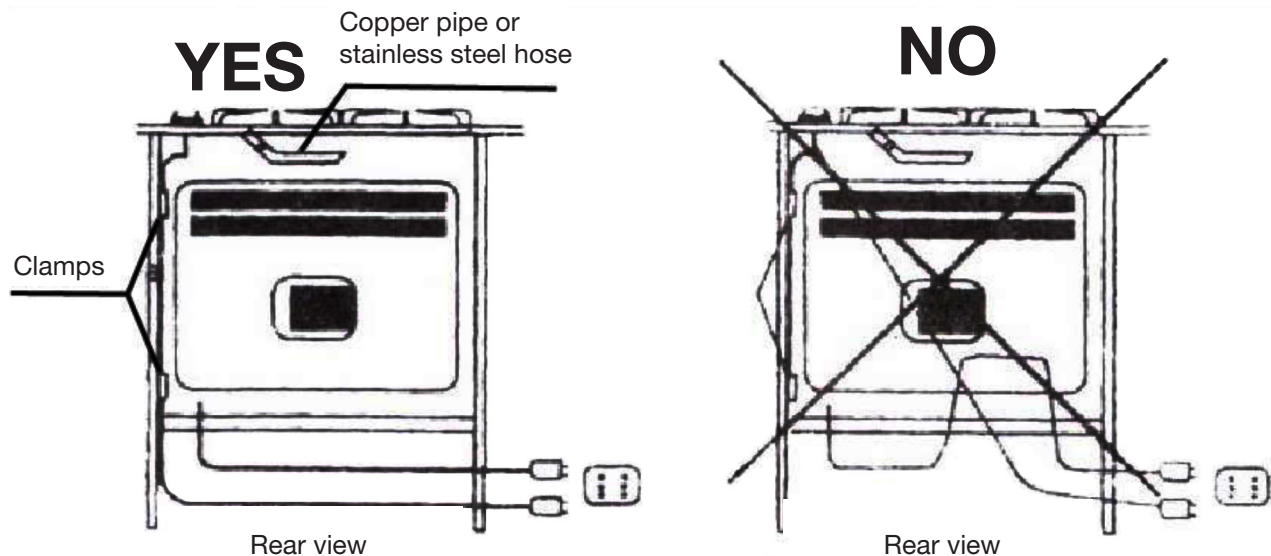

Figure 10
- 4** If installed above a built-in oven, the cooktop cable must not touch the oven below (see Figure 10).